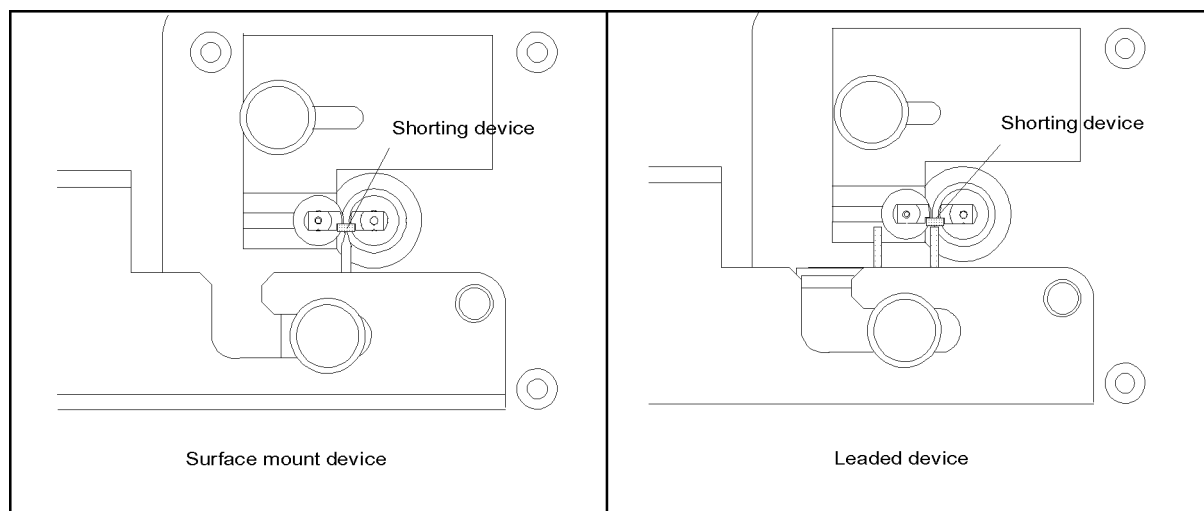

Figure D-4.
3. Place the short device on the electrodes and press it with the device holder (Figure D-4).